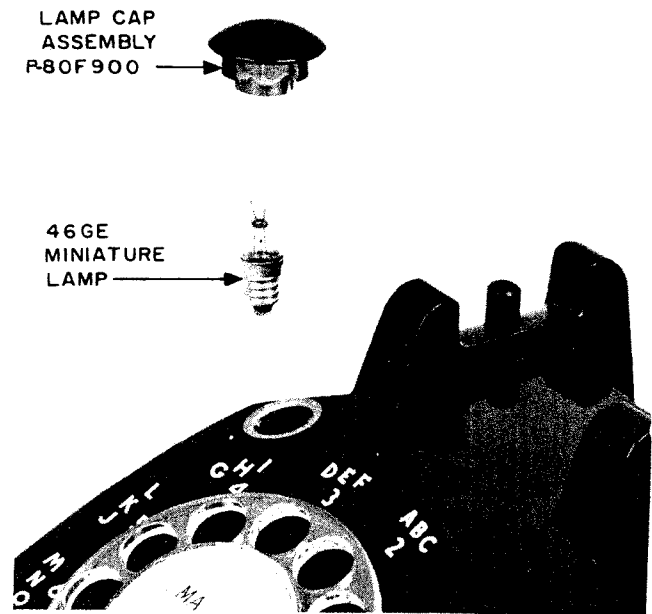

Fig. 4 — Lamp Assembly, 500H, P Sets
6.02 To remove lamp, turn lamp cap and lamp counterclockwise (see Fig. 4).